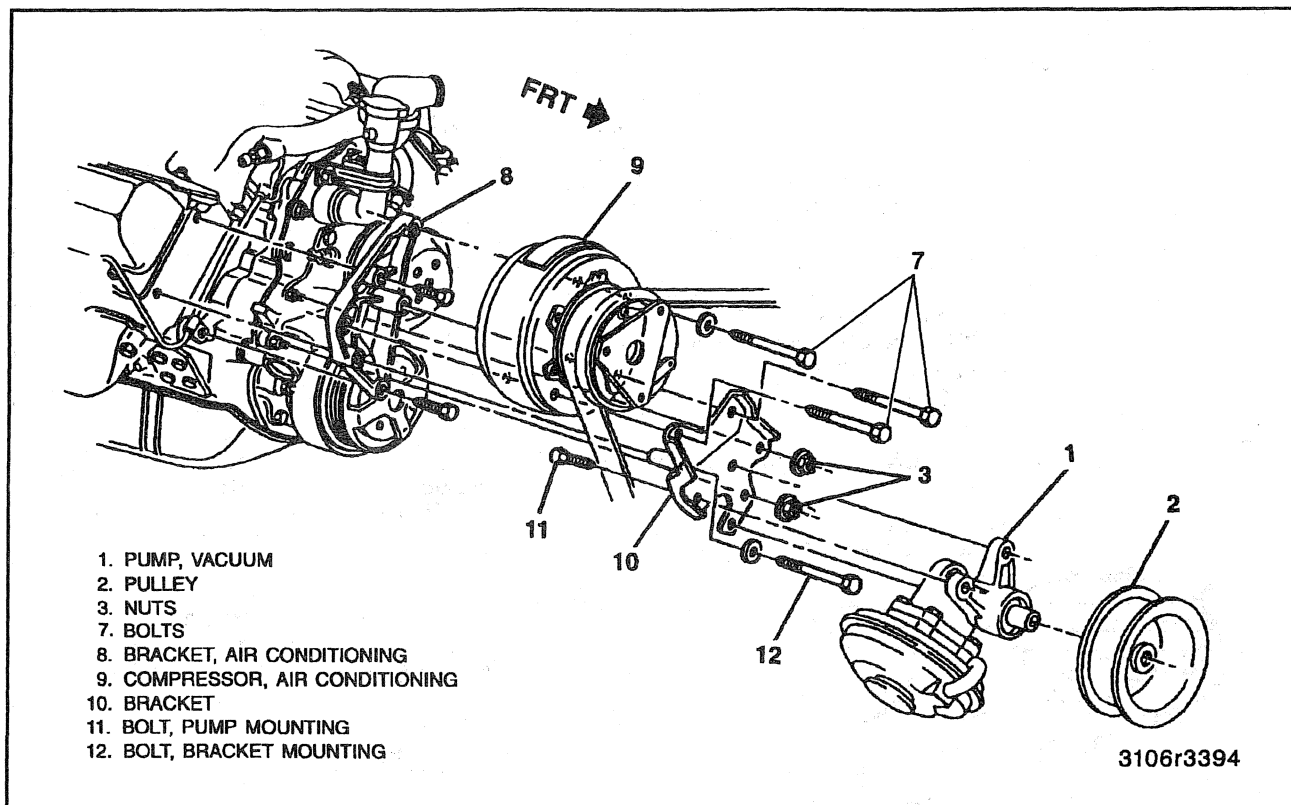
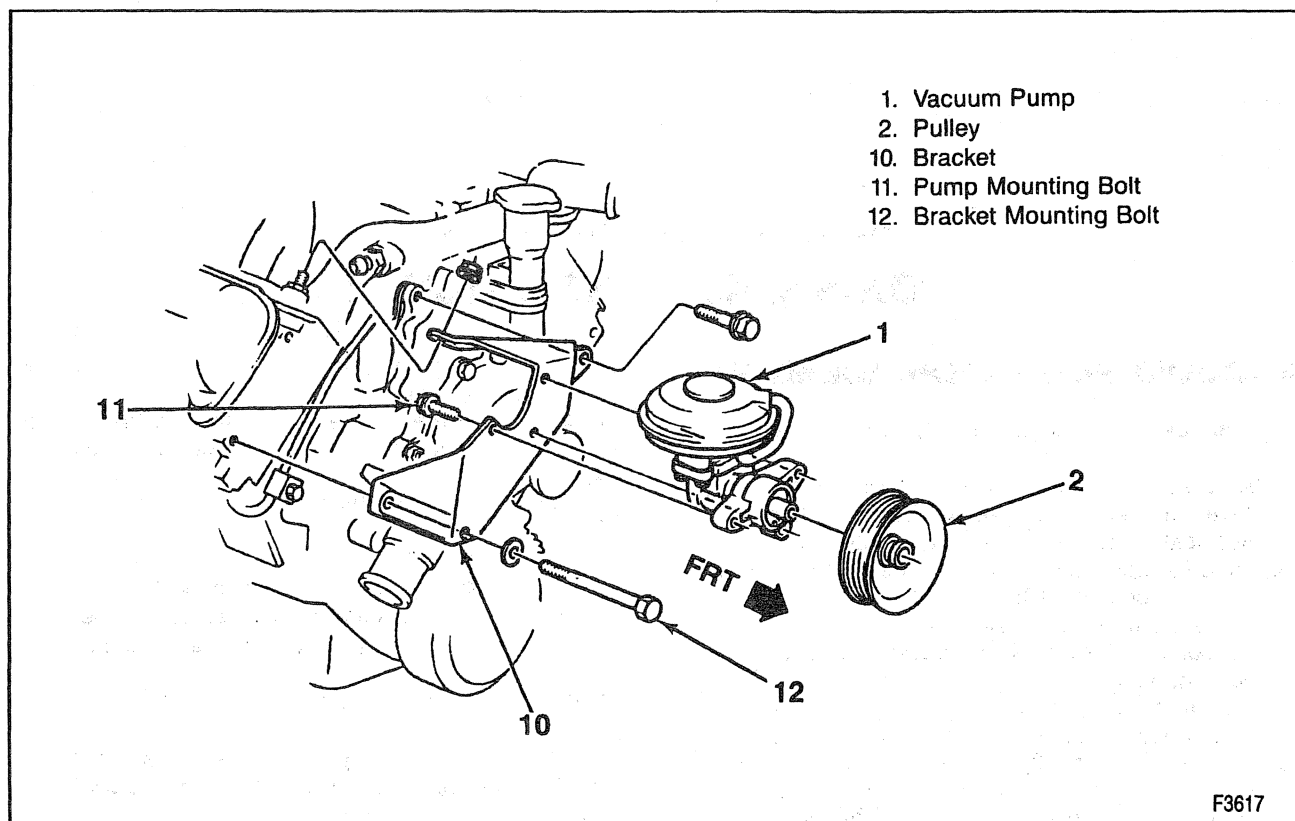

Figure 3—Vacuum Pump with Air Conditioning
Figure 4—Vacuum Pump without Air Conditioning
Remove or Disconnect (Figures 3, 4, and 5)
- 3. Three through bolts (7) holding the A/C compressor (9) to the bracket (10) (figure 3).
- 6. One through bolt (12) and two nuts (3) holding the bracket (10) to the stud on the engine (figure 3).
- 7. Vacuum pump (1) and bracket (10) assembly from the vehicle. **(Vehicles without Air Conditioning)**
- 8. Bolts holding the mounting bracket (10) to the engine (figure 4).
1. Vacuum pump (1) to the bracket (10) with bolts (11) (figure 4). (Vehicles without Air Conditioning)